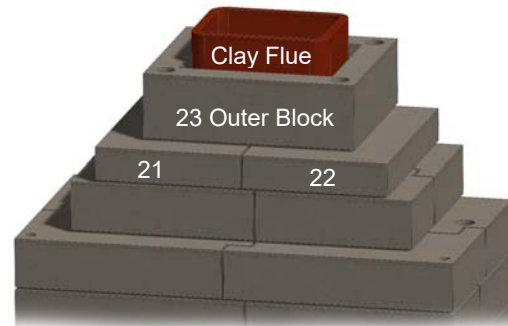

Figure 18. Stone Age Masonry Chimney
M. Install Stone Age masonry chimney system, consisting of clay liners and outer blocks, or Stone Age Pipe Adapter if installing a metal pipe chimney. See Figures 18 and 19.